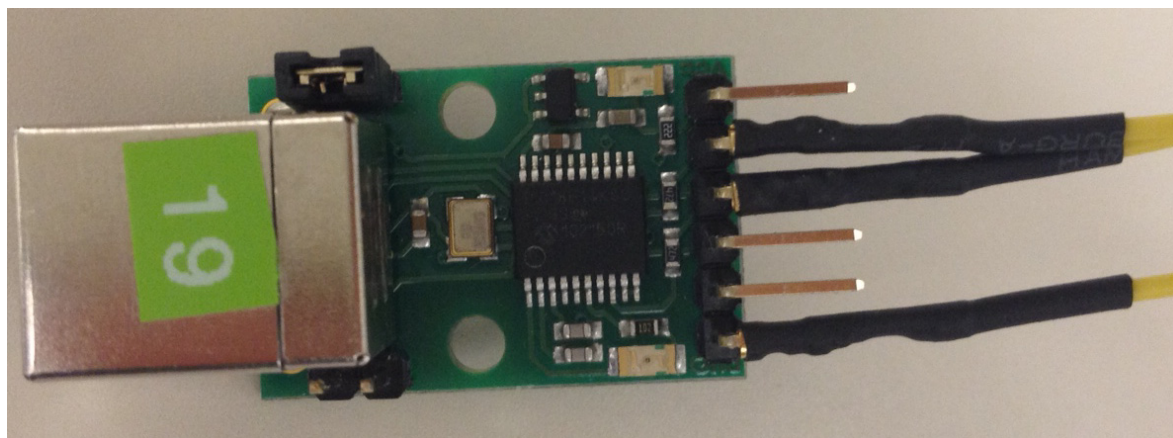

Figure 12 · USB-ISS Module with Wires Connected
6. Figure 12 is an image of the wires connected to the USB-ISS module.